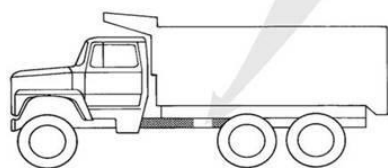

Figure 1
The two (2) Truck Frame Labels, which measure approximately 4" x 8", are to be placed on the outside of the vehicle frame rail. These labels are to be easily seen by anyone who might go under the truck or near the FA6B PTO. One label is to be placed on each side of the vehicle. See figure 1.